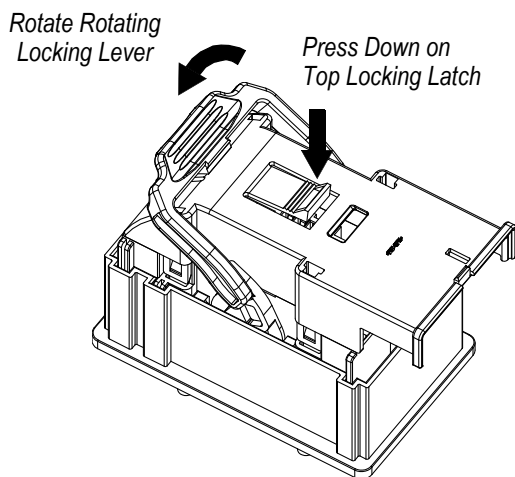
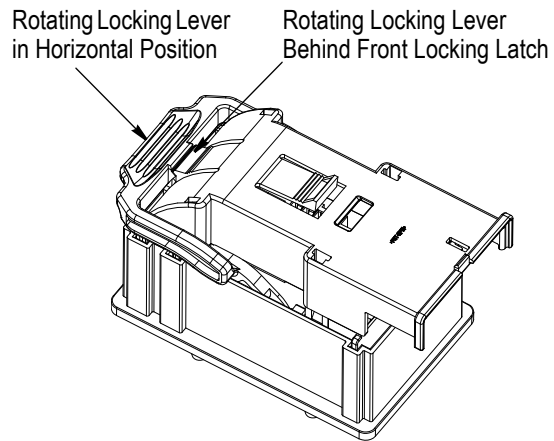

Figure 4
Figure 5
4. Press down on the top locking latch of the wire cover, then rotate the locking lever forward to the horizontal position so that it is behind the front locking latch. There will be tactile feed-back and an audible click. Refer to Figure 4. The connector assembly is now fully mated with the interface assembly in the electronic module box. See Figure 5.
1. Push in the front locking latch just above the rotating locked lever. Refer to Figure 5.